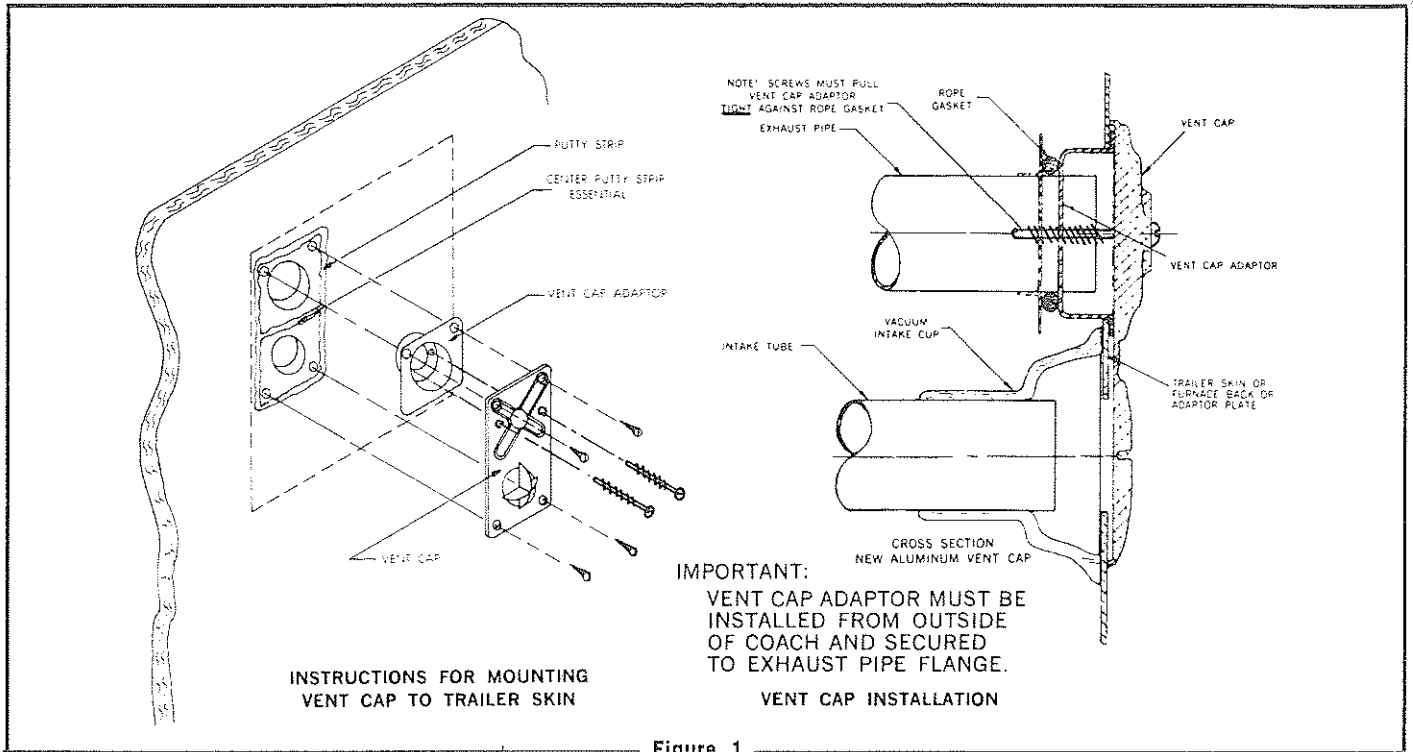

Figure 1
- g. Secure one-piece vent cap to the outside of the backplate according to Figure 1. Please insure that the vent cap adaptor is installed on the exterior of the furnace backplate!
- Refer to Figure 1-A or 1-B (depending on the model being installed) and pierce holes as shown in outer skin.
- Secure one-piece vent cap to the outside of the outer skin with the four (4) screws provided. (See Figure 1 for correct installation of vent cap and vent cap adaptor.)
- Refer to Figure 1-A or 1-B (depending on the model being installed) and find centers of exhaust and intake holes. Draw a 4" wide x 8" high rectangle equal distances around the two centers as indicated by the dotted line in Figure 2-D. From each center the rectangle should measure 2 $\frac{1}{4}$ " vertically and 2" horizontally. Cut this out through inner and outer skin of vehicle.
- Secure one-piece vent cap to vehicle's exterior skin in accordance with Figure 1. Caution! Be sure the vent cap adaptor is installed on the exterior of the special adaptor back!